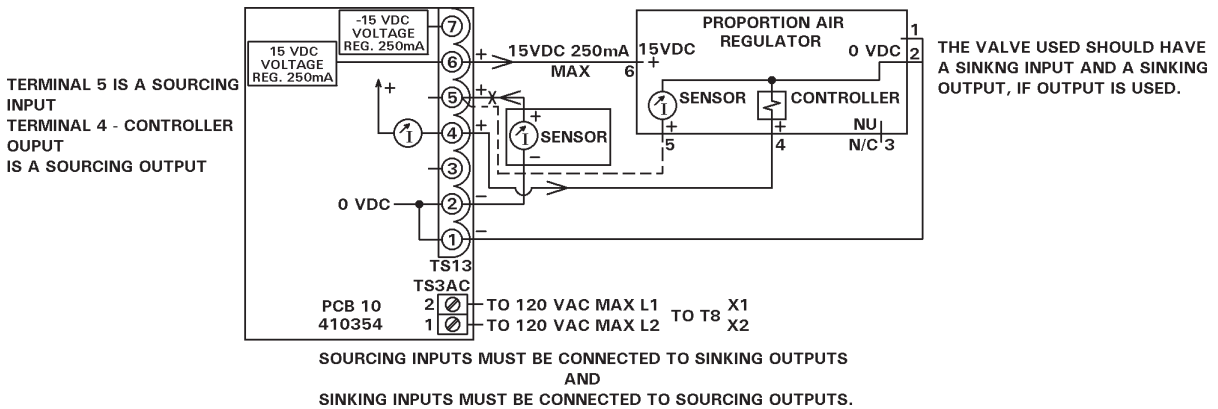

Figure 7-5. IPSC Wiring Logic – Proportion-Air
6.3 SENSOR ELECTRICAL INTERFACE (See Figure 7-5 Logic Diagram)
When customer provides Pressure Regulator and/or Pressure Sensor, use information in Figure 7-5 to wire to IPSC Option PCB 410354-Series with Standard Sensor and Regulator.